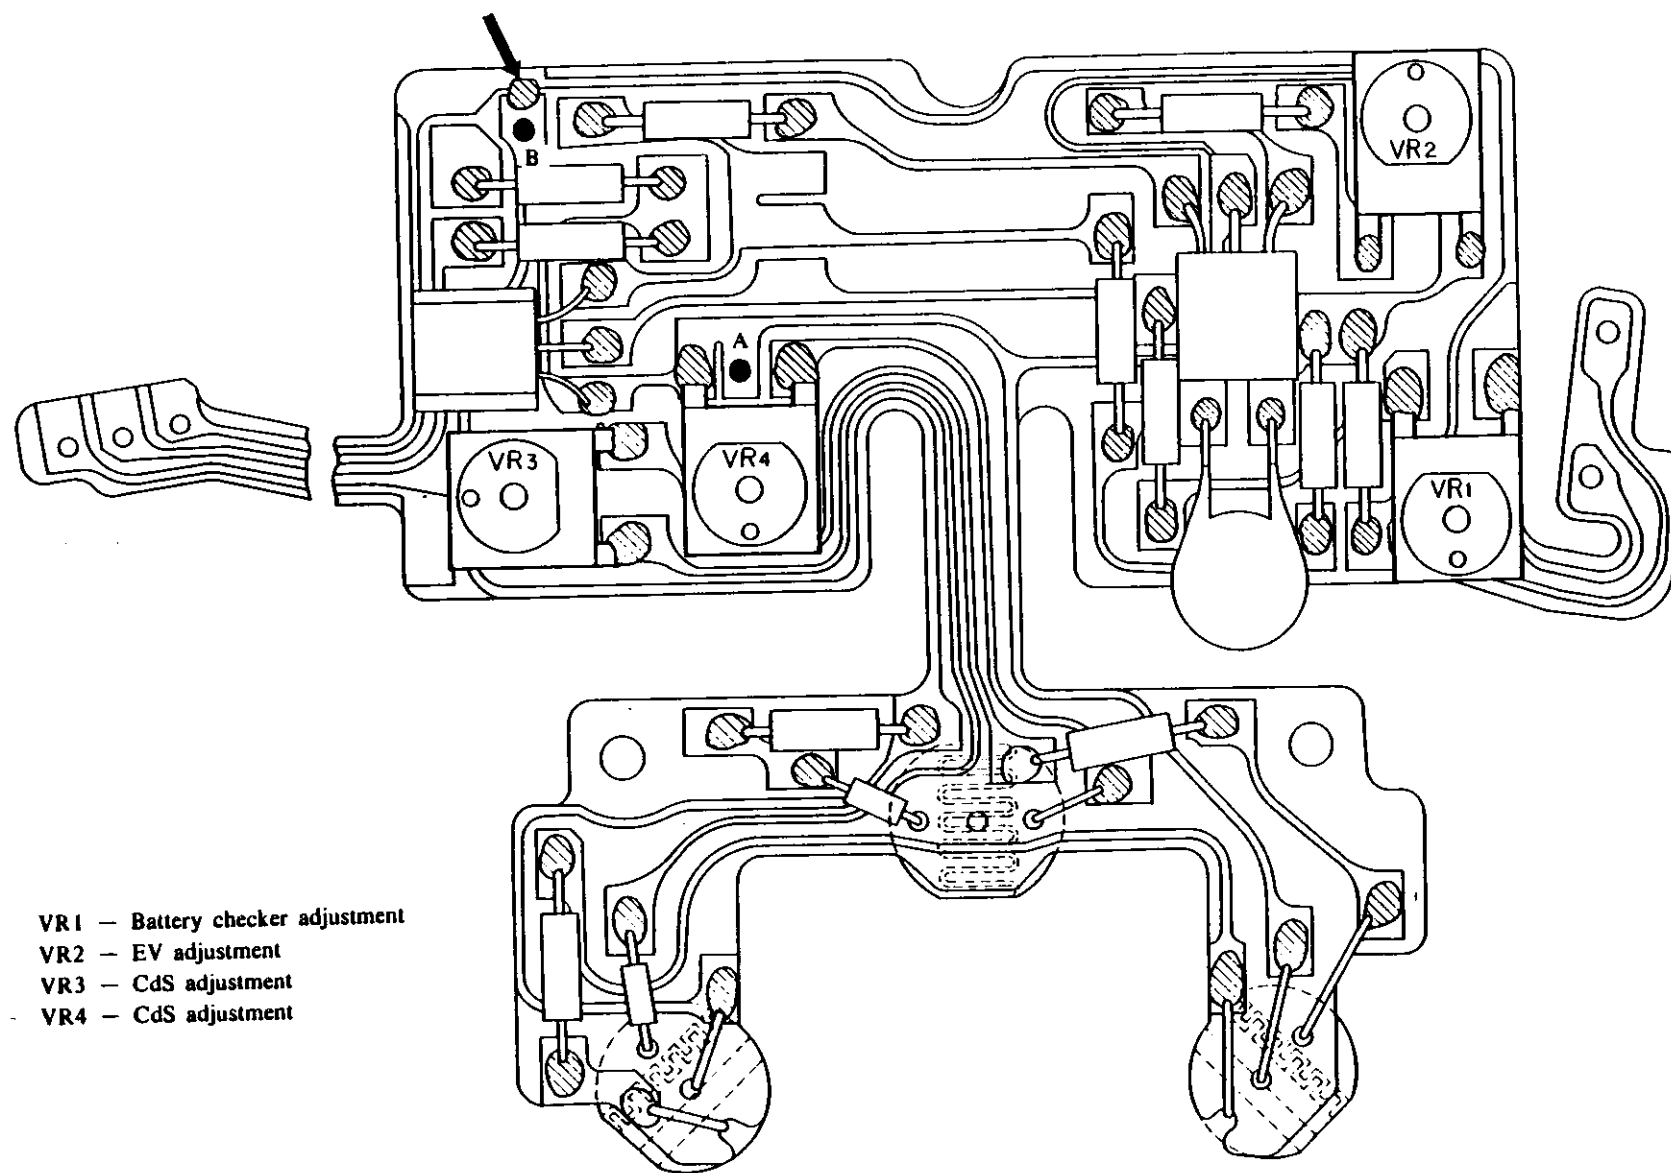

Fig. 25
### 1) Adjustment of CdS (use the Digital Multi Meter) (Fig. 25)
- 2) When adjusting the CdS, detach the soldered portion at the arrow indicated in Fig. 25, and adjust the part indicated by arrow A and B with a digital multi meter.
3) Checker adjustment (Fig. 25)